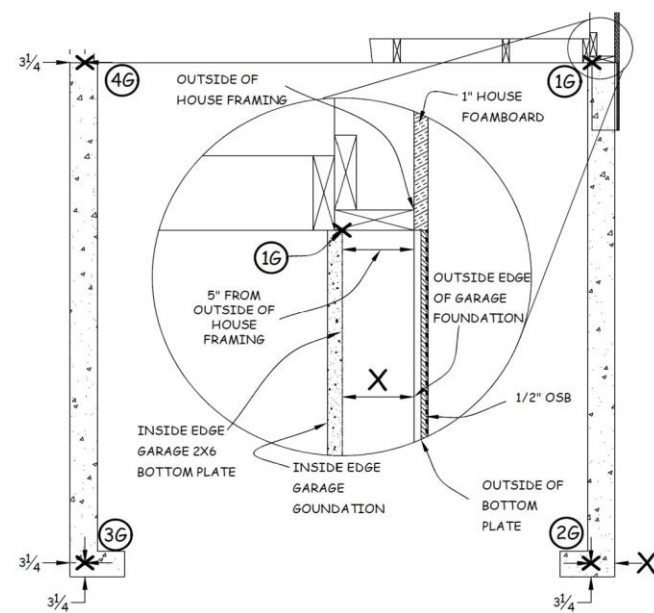

Figure 23-2. Garage Sill Plate Chalk Lines After House Walls.
2. At the wall common with the exterior house wall, determine the location of the outside of the house framing. Measure 5” in toward the garage interior and make a mark on the garage foundation where it touches the house wall (see detail in Figure 23-2). This establishes Point 1G. Measure from Point 1G to the outside of the curb, X in Figure 23-2. Establish Point 2G at the other end of the garage wall by measuring X” in from the outside of the curb, and 3¼” in from the front of the curb. Establish Points 3G and 4G as shown in Figure 23-2.